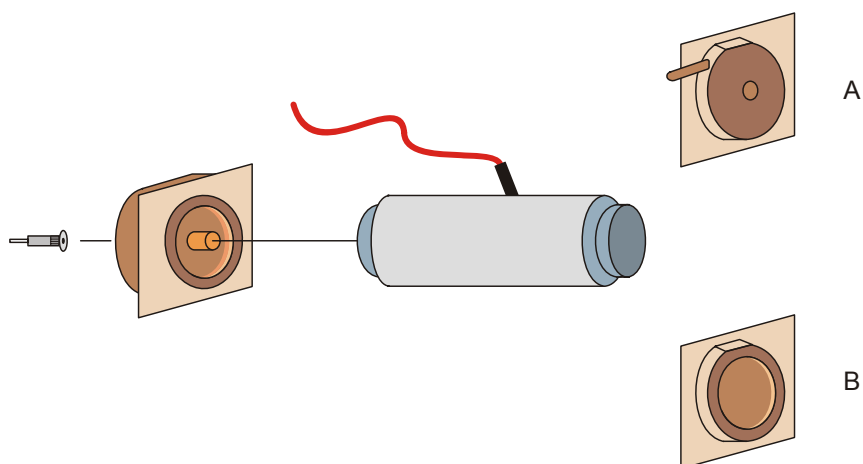

Fig. 6 Assembly of ionisation chamber (A for low pressure, B for normal atmospheric pressure)
- Assemble the ionisation chamber as in Fig. 6. To demonstrate the ionising effect of X-rays at normal pressures, use the chamber cover with the wide opening. For low pressure (principle of the Geiger-Müller tube), use the lid with the vacuum pump connection.